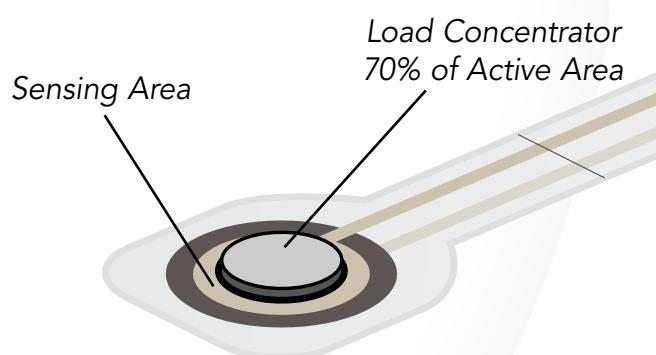

FIGURE 9: MECHANICAL “PUCK” FOR LOAD CONCENTRATION
- When a load actuator is not ideal, use a “**puck**” (see **Fig. 9**):